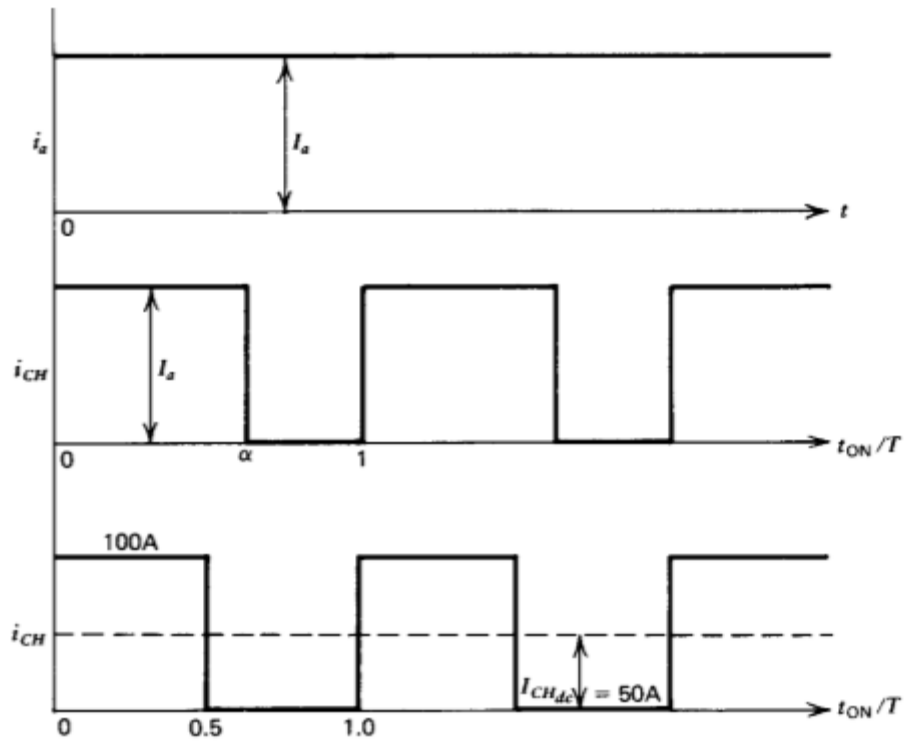

Fig. 4.21 Example 4.5
- 1 The chopper current  $i_{CH}$  is in the form of square pulses of magnitude  $I_a$  and width  $\alpha$  as shown in Fig. 4.21. Therefore, the dc component  $I_{CHdc}$ , rms current  $I_{rms}$ , and ripple current  $I_{ripple}$  are as follows:
- 2 The  $L$ - $C$  filter should be selected for the worst case, which corresponds to  $\alpha = 0.5$ . At this duty cycle (bottom wave form in Fig. 4.21) the Fourier series for the chopper current is